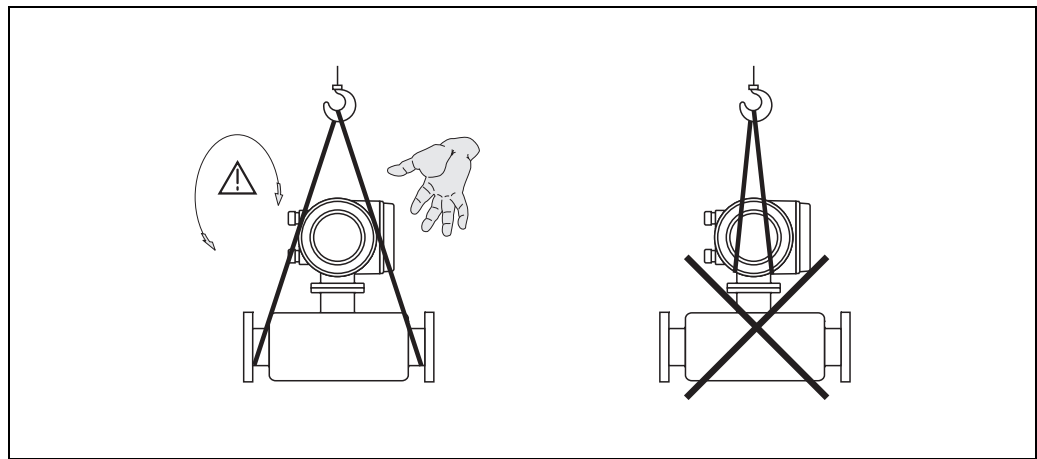

Fig. 4: Instructions for transporting sensors with $> \text{DN } 40$ ($> 1\frac{1}{2}"$)
- Do not lift measuring devices of nominal diameters $> \text{DN } 40$ ($> 1\frac{1}{2}"$) by the transmitter housing or the connection housing in the case of the remote version (Fig. 4). - Use webbing slings slung round the two process connections. Do not use chains, as they could damage the housing.